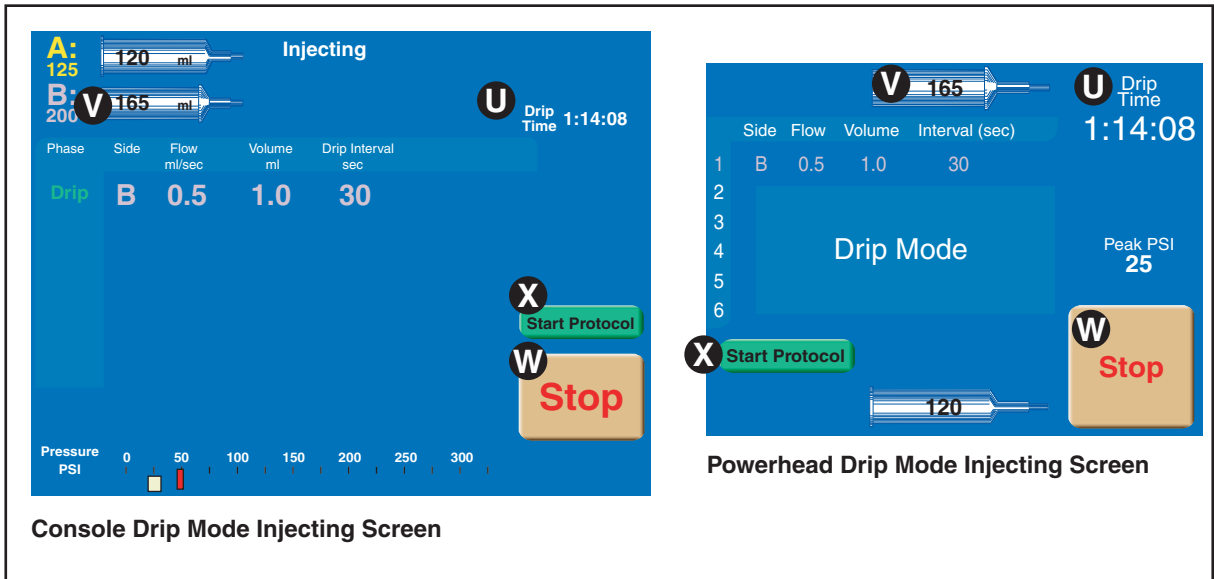

Figure 5-6-2 Drip Mode Injecting Screen
3. Press the [Start Drip] key (**S**) to start the injection and the screen as shown in Figure 5-6-2 will display. The [Exit] key (**T**) is available to exit the Drip Mode and return to the Enabled protocol screen.